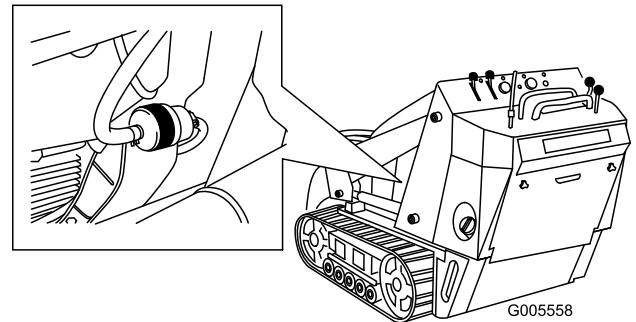

Figure 42
5. Clamp the fuel lines on both sides of the fuel filter (Figure 42).
6. Squeeze the ends of the hose clamps together and slide them away from the filter (Figure 42).